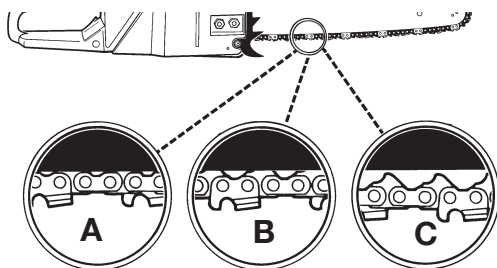

Fig. 29
**CAUTION:** If saw chain is **TOO LOOSE** or **TOO TIGHT**, the sprocket, bar, chain, and crankshaft bearings will wear more rapidly. Study Fig. 29 for information concerning correct cold tension (A), correct warm tension (B), and as a guide for when saw chain needs adjustment (C).